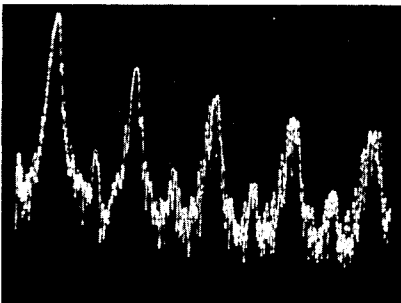

Figure 5-4. VCO Distortion Adjustment
- 10.2** Adjust A15R39 for min 2nd harmonic (Figure 5-4). Verify level is 35 dB below fundamental or lower.